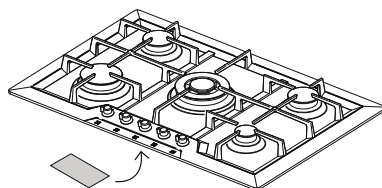

Fig. 1: *position of the identification plate*
**The identification plate**, with technical data, serial number and marking, **is positioned in view under the housing** [Fig. 1].